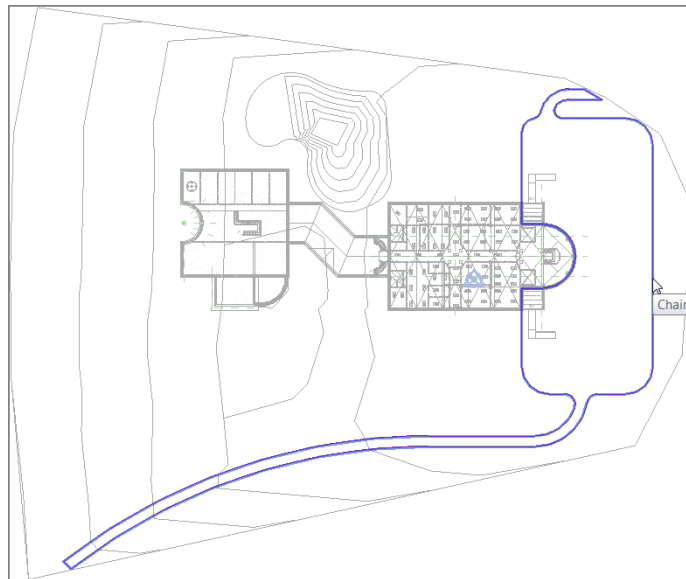

FIGURE 18.12: Sketching the subregion
5. Draw a region similar to the one shown in Figure 18.12. (It doesn't have to be exact.) This image shows a parking area with some pedestrian access. The inside of the parking area follows the building footprint. Pick Finish Edit Mode.